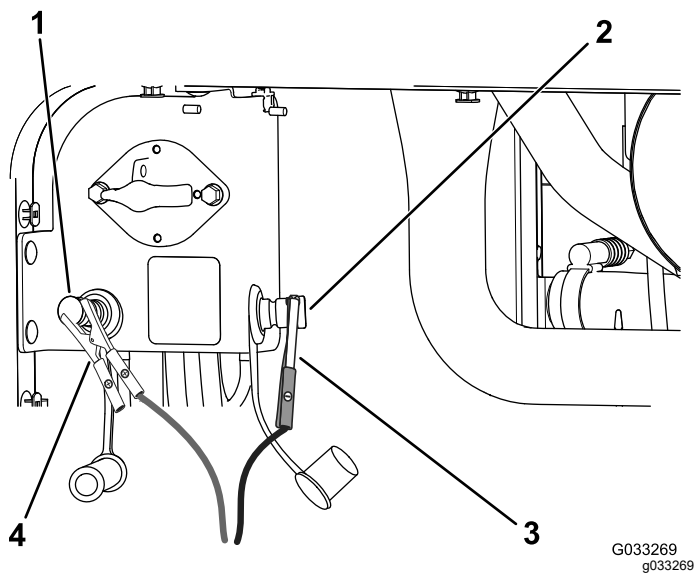

Figure 78
4. Connect the positive (+) jumper cable to the positive jump post (Figure 78).
5. Connect the negative (-) jumper cable to the negative jump post (Figure 78).
7. When the engine starts, have the other person disconnect the negative (-) jumper cable from the negative jump post and then disconnect the positive (+) jumper cable (Figure 78).